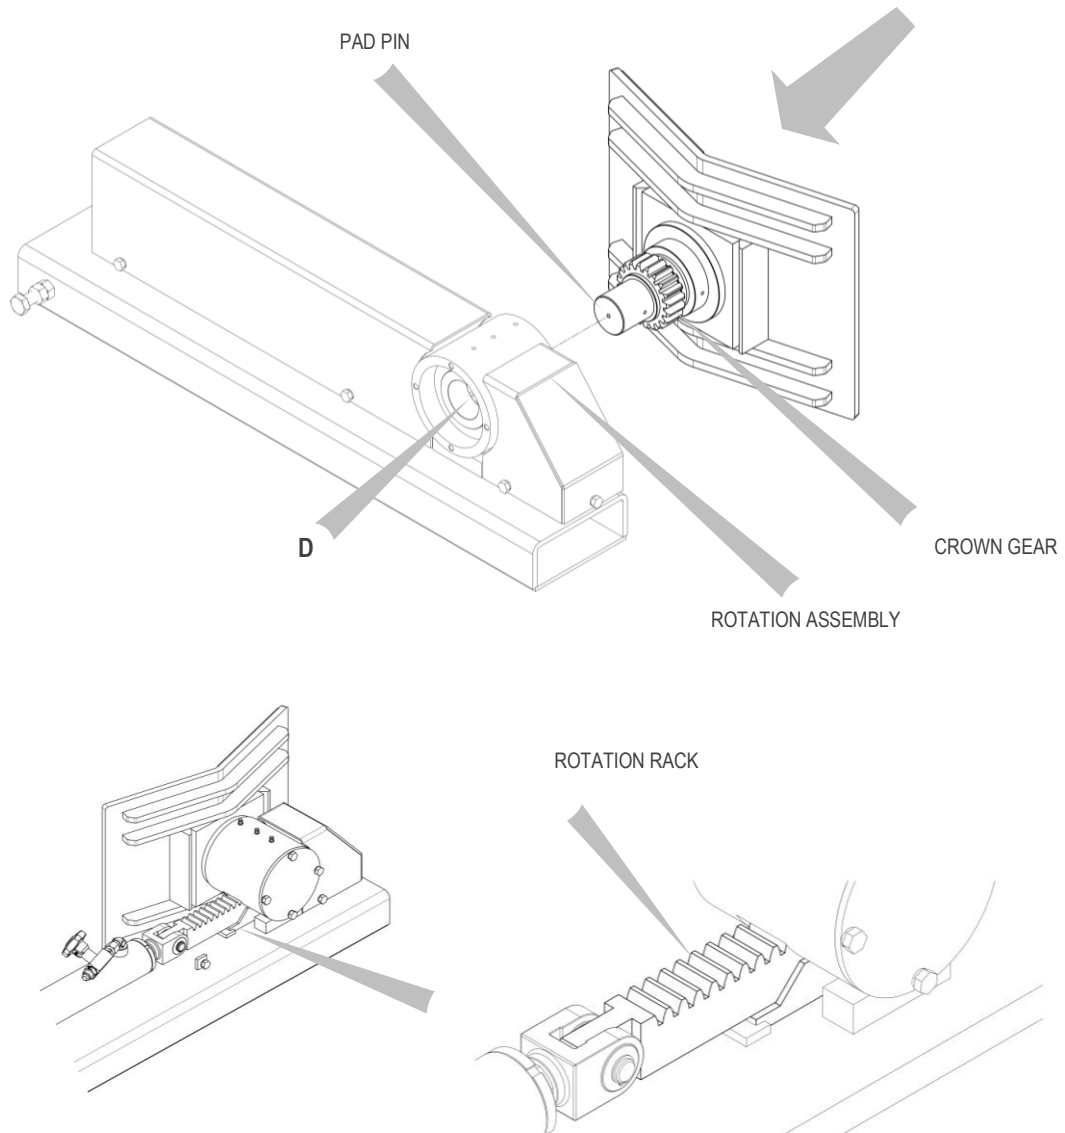

Figure 20
4. Position the pad pin on the axis with the clamping unit and, keeping it parallel with the plane of the fork, insert the pad into the clamping unit, taking care to engage the crown gear with the rotating rack (see Figure 20)